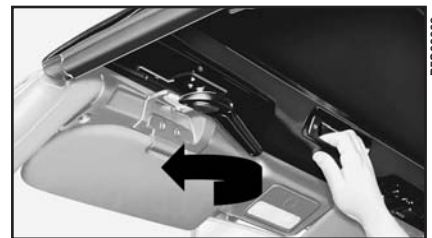

fig. 61
7) From the inside of the car, swing the sun visors down, keep the hood lowered with one hand using the recess for the purpose fig. 61 and, with the other hand, lock it onto the windscreen transom by turning the handles.